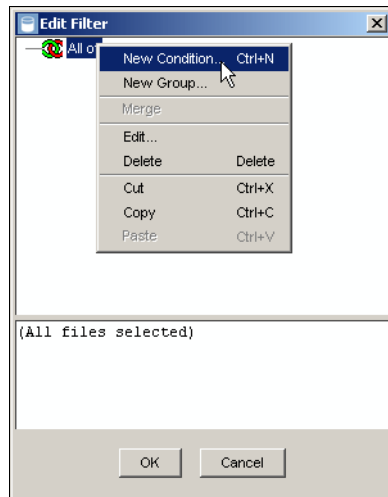

Figure 2-7 Create new condition
7. Now, start to create the various filter conditions by right-clicking and selecting **New Condition** as shown in Figure 2-7.